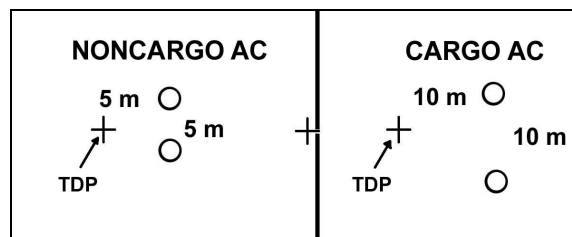

Figure 4-15. Placement of additional touchdown point markings for night use.
c. At other touchdown points, helicopters land with the right landing gear or skid just to the left of the light (Figure 4-15, page 4-22). Until the last practical moment, pathfinders hood or turn upside down all lights for security. They also place a signalman at a sling-load point. Then, they beam the lights in the direction from which the helicopters approach.